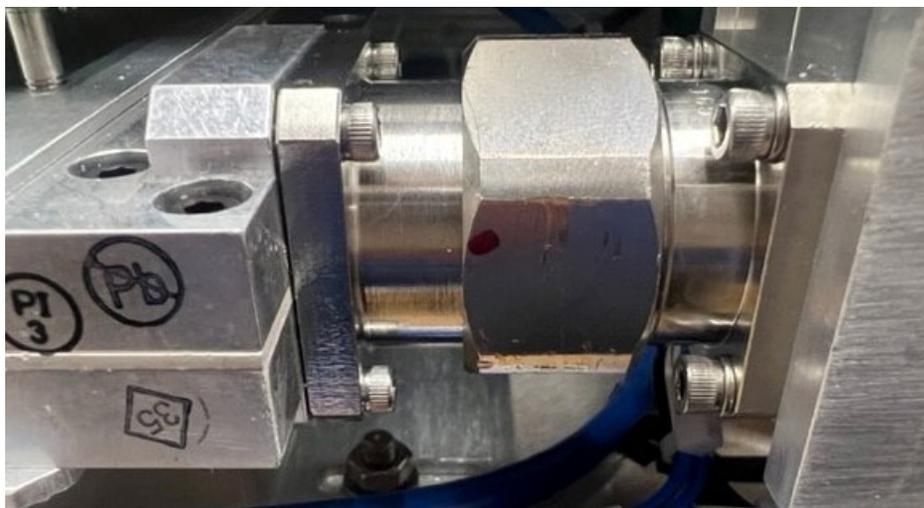

Figure 4
6. Observe the connection between the directional coupler and combiner (Figure 4).